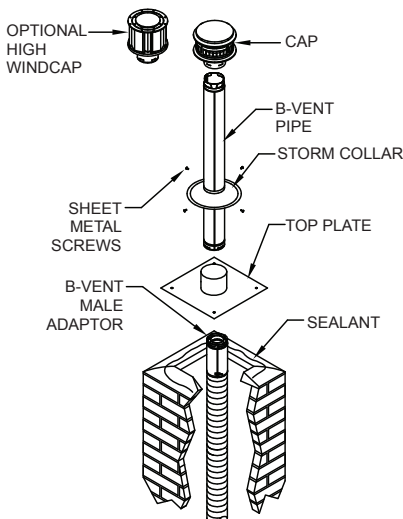

Figure 16
to extend the B-Vent pipe down within the masonry chimney to the roof line level to keep the flue gas hot in the exposed portion of the masonry chimney. Attach the Storm Collar to the B-Vent pipe with (4) 3/8-inch long sheet metal screws equally spaced at 90° (**Figure 16**). The Storm Collar rests on the Top Plate and serves as the top support for the liner system. It is UL Listed to support the Flex or B-Vent Liner. Refer to **Table 1** to determine the maximum length supported.
Step 4. Seal the Storm Collar to the Top Plate and twist-lock the B-Vent top to the B-Vent pipe. As an alternative to the standard cap, you may want to install a B-Vent High-Wind Top in areas where excess wind may be a concern (**Figures 16 & 17**).